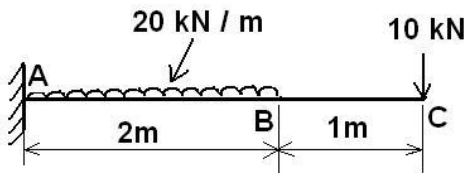

Fig. 1
- (b)** Find slope and deflection at point B for the cantilever beam as shown in figure.1 using unit load method. take $EI=20000 \text{ kN.m}^2$. **07**